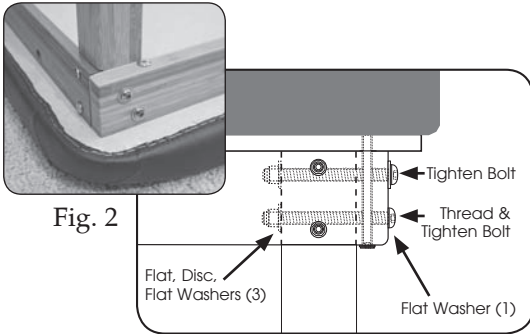

Fig. 2
3. Install the Long Large Bolts, Washers and Nuts, as shown, on the top of each leg. When placing washers inside of the leg, sandwich 1 Disc Washer between 2 Flat Washers; outside of the leg, use 1 Flat Washer. Using the supplied tools, tighten every bolt -- 8 total -- as tight as possible. (Fig. 2)